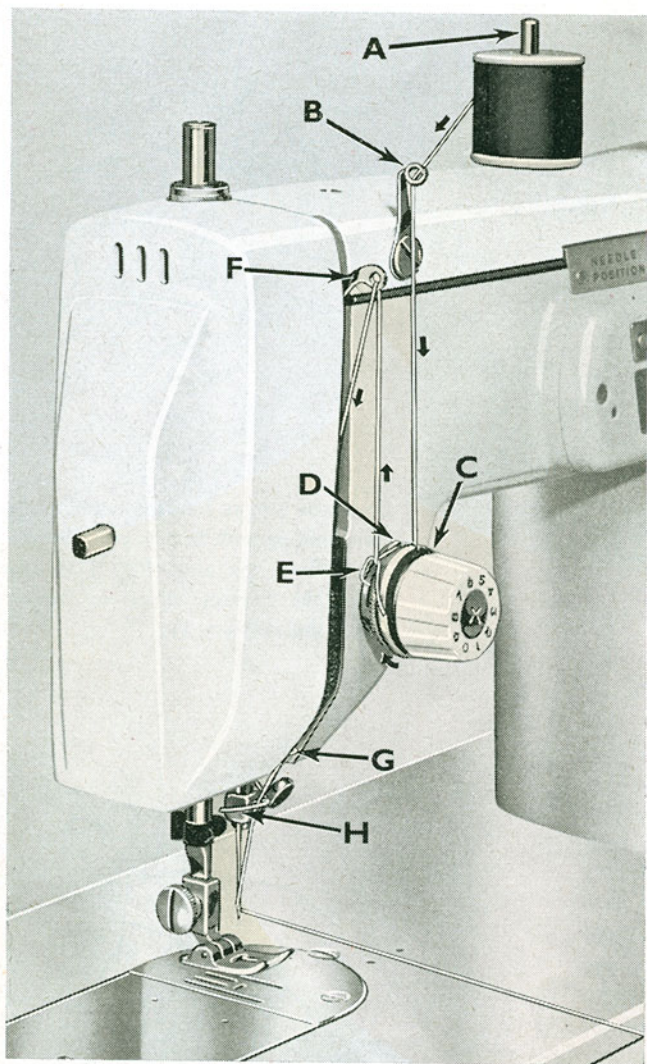

FIG. 14
1. Continue to turn the balance wheel until the take-up lever F (Fig. 14) has reached its highest point.